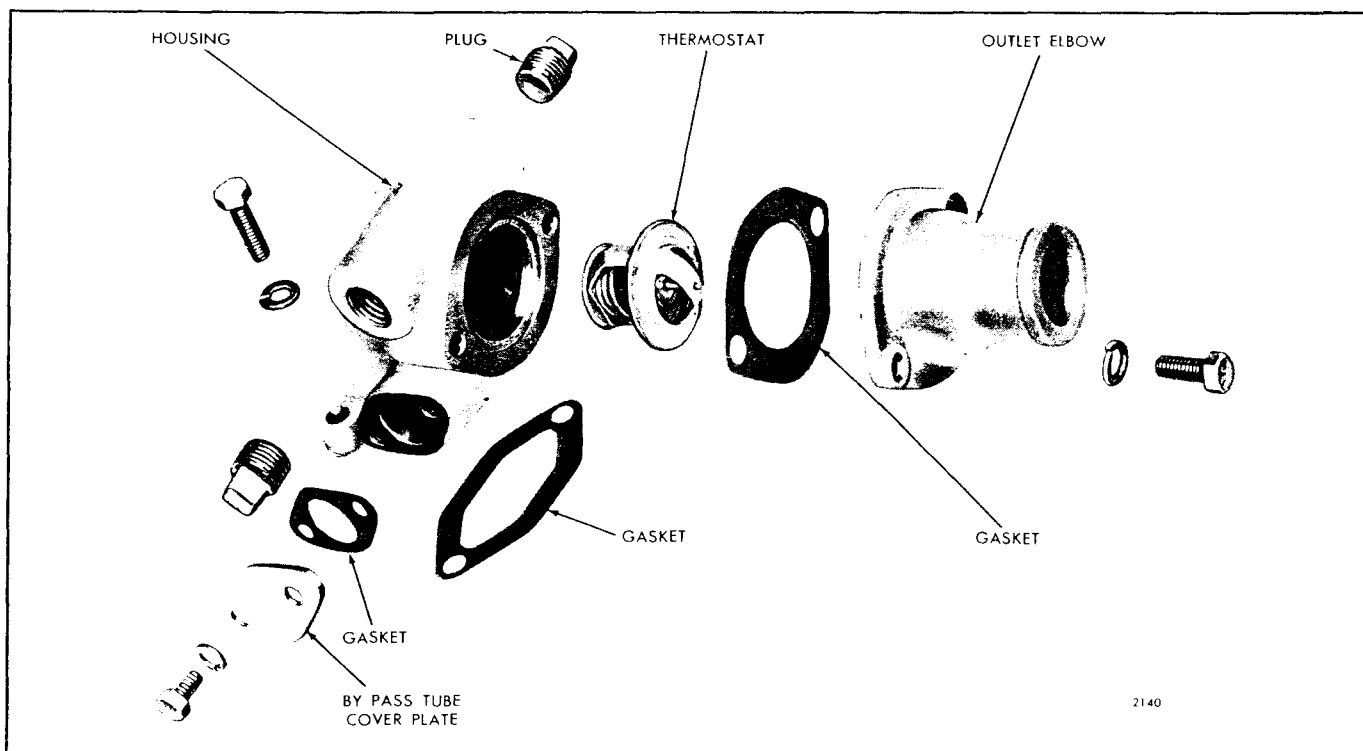

Fig. 2 - Thermostat Housing Details and Relative Location of Parts (In-Line Engine)
3. Loosen the bolts and remove the water outlet elbow from the thermostat housing on the in-line engine (Fig. 2). Take out the thermostat.